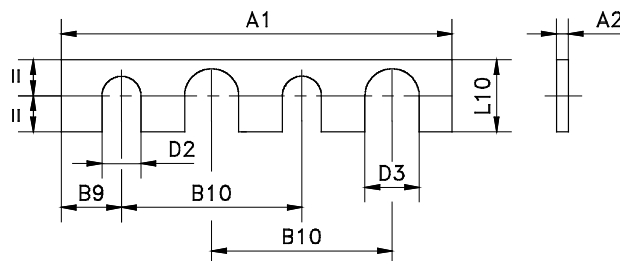

Fig. 5.7-1: Example showing shims
- Compensate the dimensional tolerance to 0 mm by fitting appropriate shims (see Fig. 5.7-1). Close the clamp and check the bottom "0 mm" position.
- Compensate the dimensional tolerance to +0.8 mm by fitting appropriate shims (see Fig. 5.7-1). Close the clamp. The maximum clamping force is applied at the bottom clamping position. The plane-parallel clamp is thus preloaded. The force level is kept within a defined range (metal sheet thickness compensation).